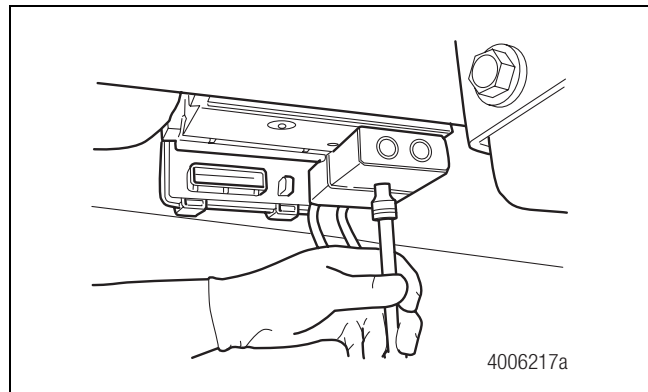

Figure 4.26
9. Use a 4 mm socket wrench to loosen and remove the five Allen-head screws that secure the relay valve to the hydraulic compact unit (HCU). Figure 4.26.